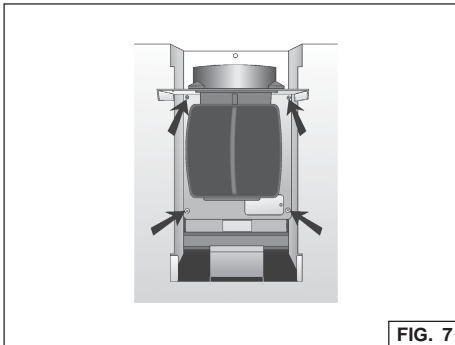

FIG. 7
- disassemble the motor block (included the plate where it is fixed) unscrewing the 4 screws (Fig. 7).